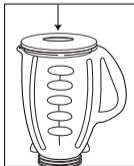

FIGURE 7
- Do not remove the lid while in use. Remove feeder cap to add smaller ingredients. (*Figure 7*)